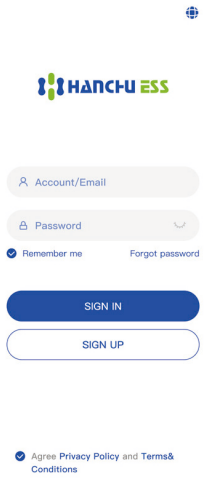

Fig. 1
- If you have already registered, you can log in directly . Then you can turn to "9.2.2 Bind decives".If you don't have an account yet, tap"Sign up" to register as shown in Fig. 1.